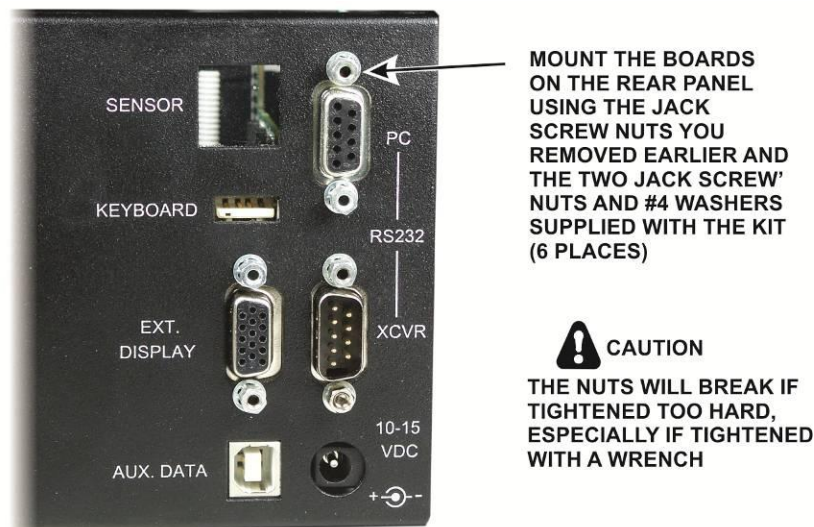

Figure 8. Mounting Boards in Rear Panel.
□ Mount the boards on the rear panel as shown in Figure 8. Start all of the jack screw nuts before tightening them. Do not over-torque them. It is possible to twist the head off of the threaded section, especially if you use a wrench.